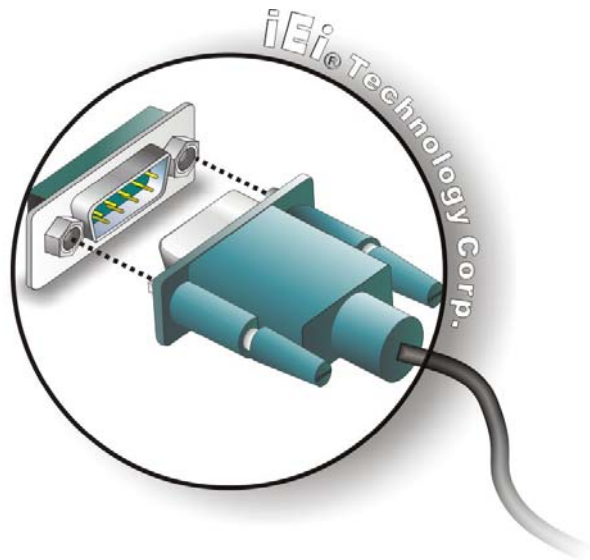

Figure 2-20: Serial Device Connector
Step 2: Insert the serial connector. Insert the DB-9 connector of a serial device into the DB-9 connector on the external peripheral interface. See **Figure 2-20**.